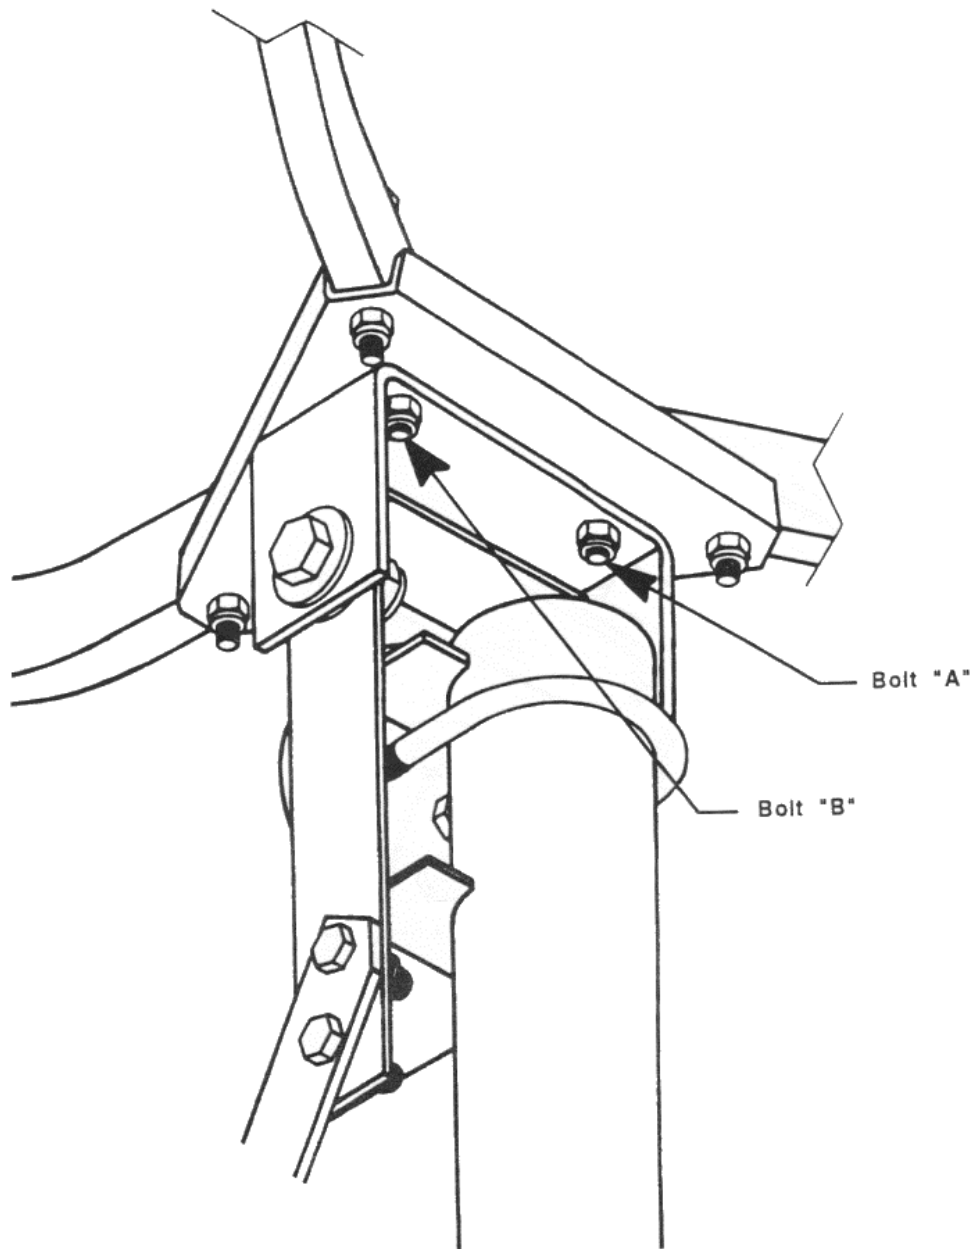

FIG. 12
1. Declination is the offset of an antenna to the polar axis. It can be measured as the angle between points "A" and "B" in Fig. 12 on the following page. To adjust, install plastic shim(s) on the 8-hole tri-hub plate as required to achieve the correct declination angle.
1. For declinations where bolt "A" is not long enough, replace bolt "A" ($\frac{3}{8}$ " x 3" bolt) with $\frac{3}{8}$ " x 3 $\frac{1}{2}$ " bolt. (See Fig. 12)
2. For declinations where bolt "B" is not long enough, replace bolt "B" ($\frac{3}{8}$ " x 3" bolt) with $\frac{3}{8}$ " x 3 $\frac{1}{2}$ " bolt. (See Fig. 12)